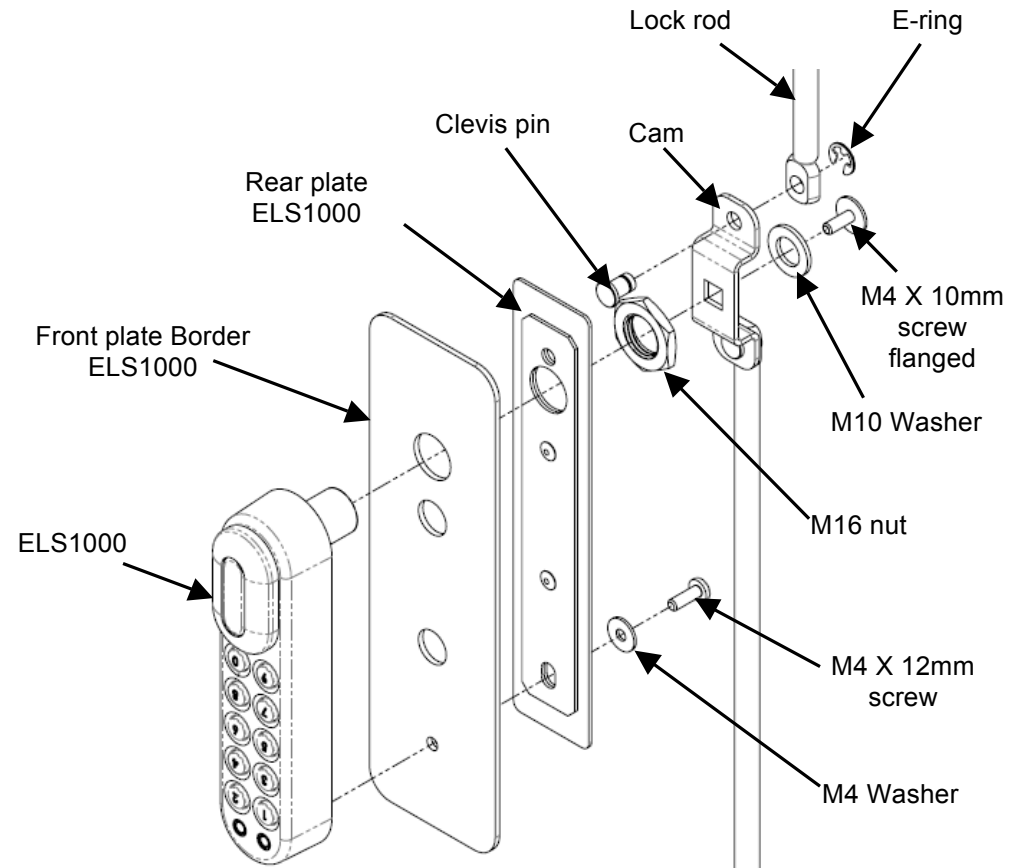

Fig. 1
1. Install the two point ELS1000 (Fig. 1) onto rear solid door.